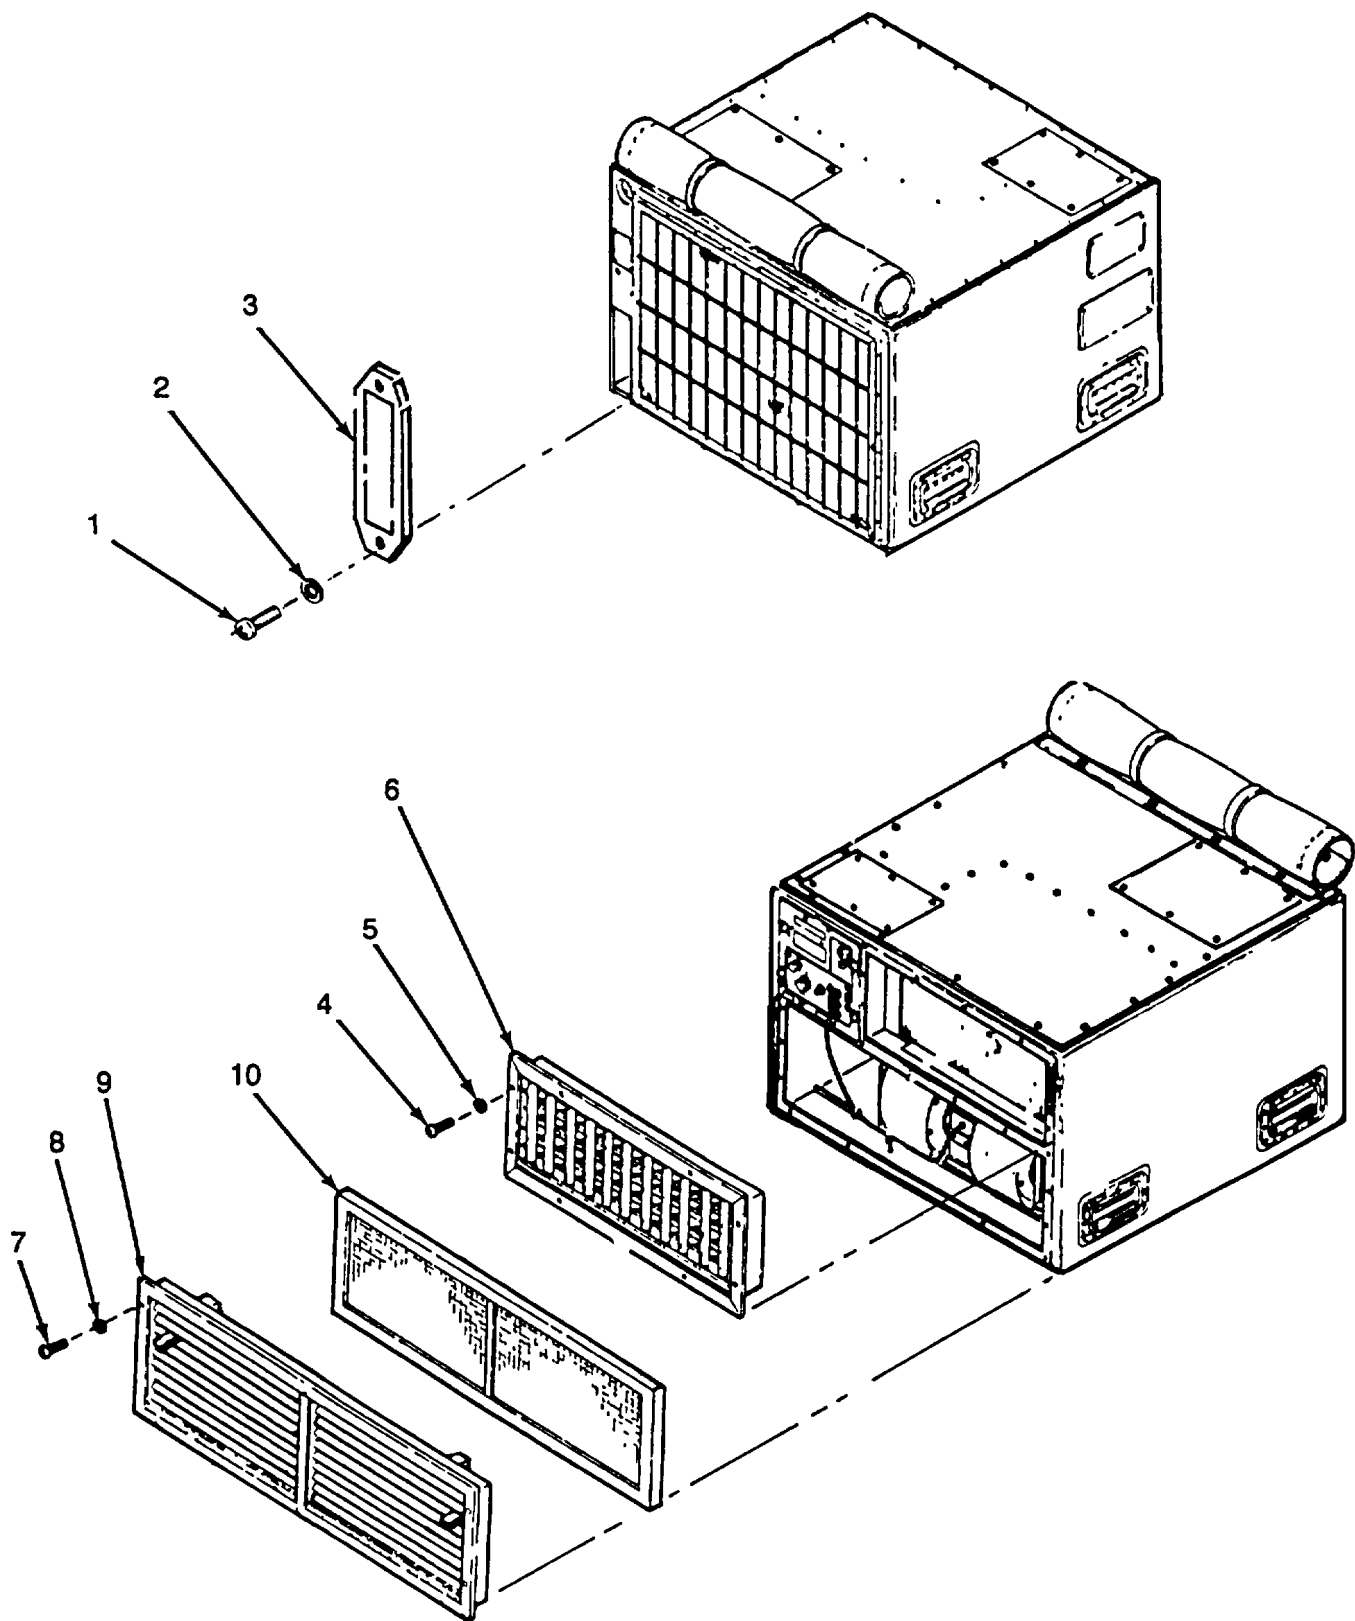

Figure 5-3. Replacement Air Conditioner.
- b. Replacement air conditioner (Refer to figure 5-3).
1. Remove two screws (1), two lockwashers (2), and fresh air guard (3).
2. Remove eight screws (4), eight lockwashers (5), and supply louver (6).
3. Remove eight screws (7), eight lockwashers (8), return louver (9), and return air filter (10).
- a. Damaged air conditioner (Refer to figure 5-3).
- 1. Install return air filter (10) in return air louver (9).
- 2. Position return air louver (9) and install eight lockwashers (8) and eight screws (7).
- 3. Position supply louver (6) and install eight lockwasher (5) and eight screws (4).
- 4. Install fresh air guard (3), two lockwashers (2), and two screws (2).